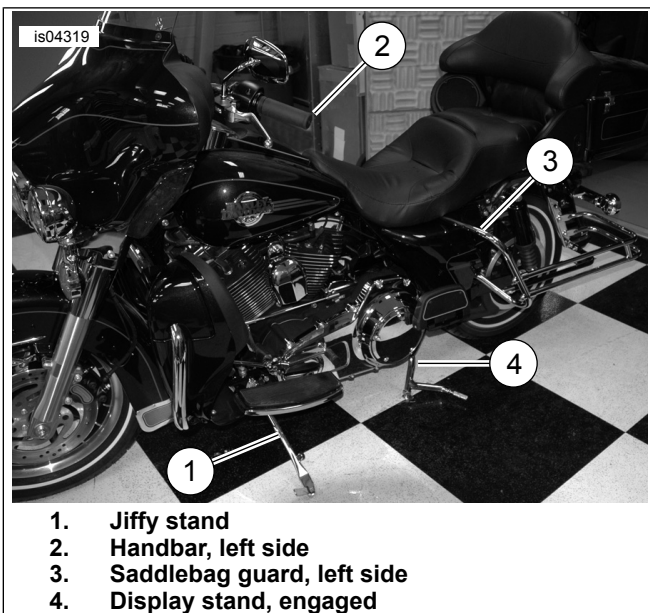

Figure 6. Display Stand, Engaged
2. See Figure 6. Hold the left handgrip (2) with your left hand, straighten front wheel and then hold the top of the left-rear guard (3) (if equipped) with your right hand.
5. See Figure 6. Once centered on both feet, push down on lever and lift vehicle rearward to ease the vehicle onto the display stand (4).